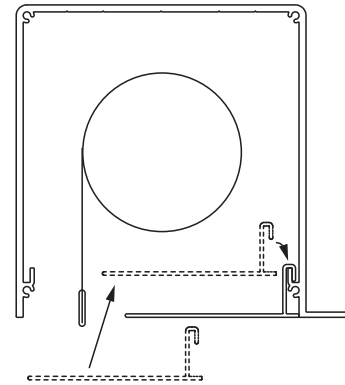

Figure 5
- ⑧ Put removable closure in place (see Fig. 5). For larger shades, the bundle diameter may require you to lower the shade before the closure can be put in place.